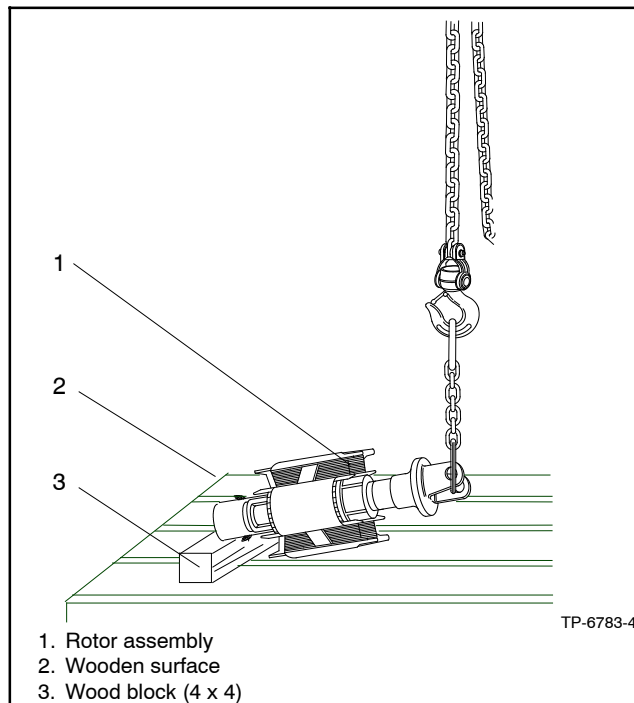

Figure 11-11 Lowering Rotor
25. Place a 100 mm (4 in.) wood block under the rotor shaft end to prevent the coil end turns from coming in contact with the surface before the core stack as it is lowered. This procedure prevents damage to the rotor windings. Slowly lower the rotor to the horizontal position. Set the rotor on a wooden surface. Take care not to damage the windings, laminations, or bearing. See Figure 11-11.